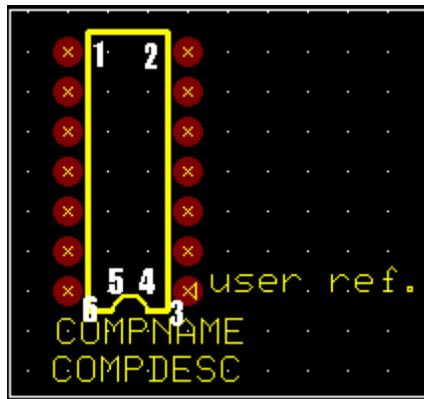

Fig. 3-17
8. Select  **Create Graphic Item** tool and then  **Create line** option tool to create a rectangle border around the pads. Now turn ON the grid, and set the grid and snap size. Click on the workspace. A small line will appear at the cursor. Move the cursor to the point where the graphic should start and press the left mouse button. As we move the cursor, the line is stretched, left click on completing one side. Refer picture below and create the lines 1-2, 2-3, 3-4, 5-6 and 6-1. As per the general convention usually a small curve is present in the outline to identify the starting point of pin numbering. Place contact points on 4 and 5 and create an arc on the outline using the tool  **Create Arc** as shown in Fig.3.17.